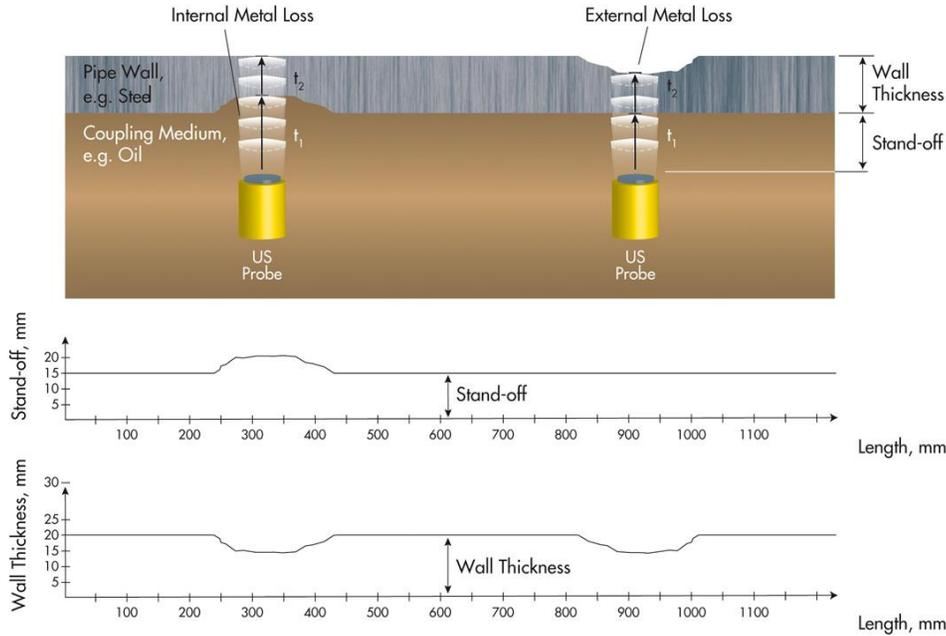

Figure 1: Schematic representation of UT wall thickness principle
Piezo-electric transducers mounted on a pigging tool - in most cases within a special sensor carrier - are used for measuring the wall thickness of pipelines. Wall thickness variations, mainly caused by corrosion can therefore be detected and measured. The ultrasonic technique (UT) requires a suitable single-phase liquid coupling medium. For wall thickness measurement application, the sensors have to be arranged perpendicular to the wall. Figure 1 explains the principles of the UT wall thickness measurement.